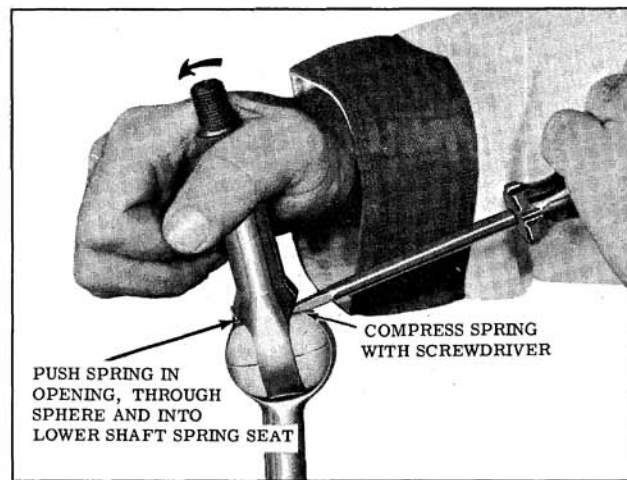

Fig. 8-111 Installing Spherical Joint Spring
3. Install the pre-load spring through the centering sphere and into the spring seat in the lower shaft. Compress the spring into the opening between the sphere and the upper shaft, then move upper shaft to hold spring. With a screwdriver, inserted through the coils from the opposite side of the shaft, compress the spring so the upper end will snap into the spring seat in the upper shaft. (Fig. 8-111)